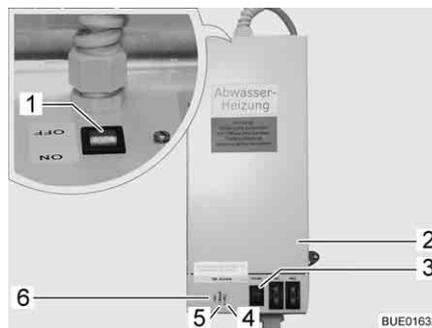

Fig. 142 Transformer with control unit
The 230 V AC/12 V DC transformer (Fig. 142,2) is installed in the wardrobe or in the storage area beneath the seating group, depending on the model.
- Indicator lamp (Fig. 142,5) lights up in green: Regulation in operation
- Indicator lamps (Fig. 142,4 and 6) light up in red: Waste water pipes are warmed
A test button (Fig. 142,3) is integrated in the housing with which the control unit can be operated for a short time. By pressing the test button, the function of the warming unit can be tested, even if the ambient temperature is above 5 °C.
- Turn switch (Fig. 142,1) on the transformer (Fig. 142,2) to "ON".
- Turn switch (Fig. 142,1) on the transformer (Fig. 142,2) to "OFF".